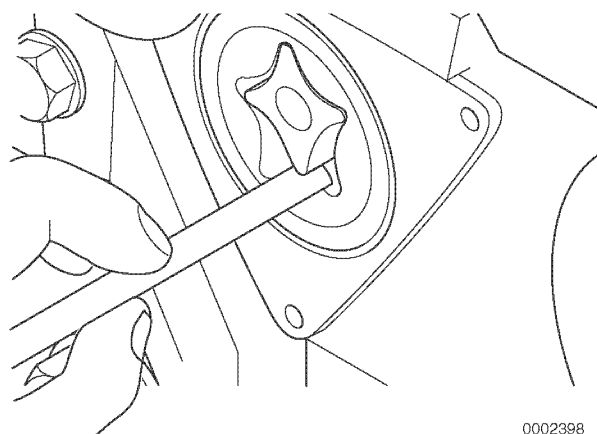

Figure 6-70
3. Use a feeler gauge to measure the inner rotor-to-outer rotor clearance (Figure 6-70). Record the measurement.